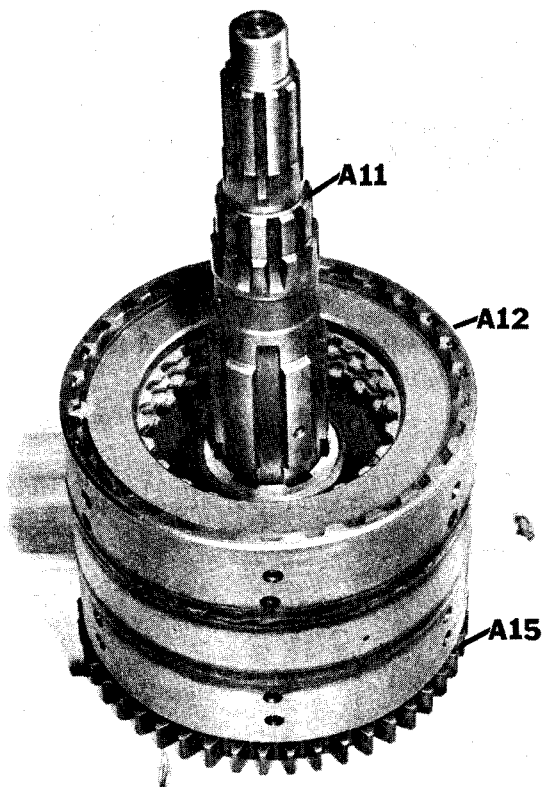

Figure 37
2. Press input shaft (A-11) into clutch pack (A-12) and clutch gear (A-15), assemble carefully noting the alignment of the two oil holes in the shaft to the two holes in the clutch pack (Figure 37).